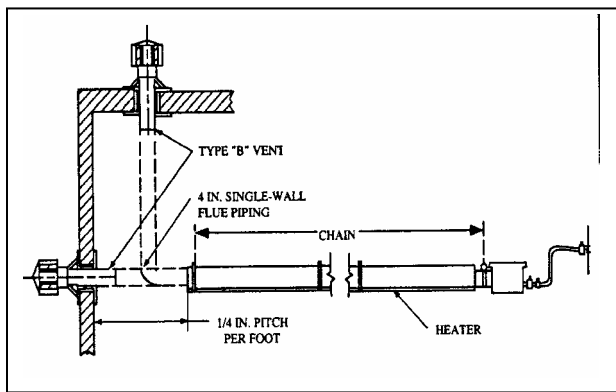

Figure 2-21
- Horizontal flues should be pitched down toward outlet, ¼ in. per ft. of the vent length, to prevent rain from entering the heater (see Figure 2-21). Do not pitch heater.